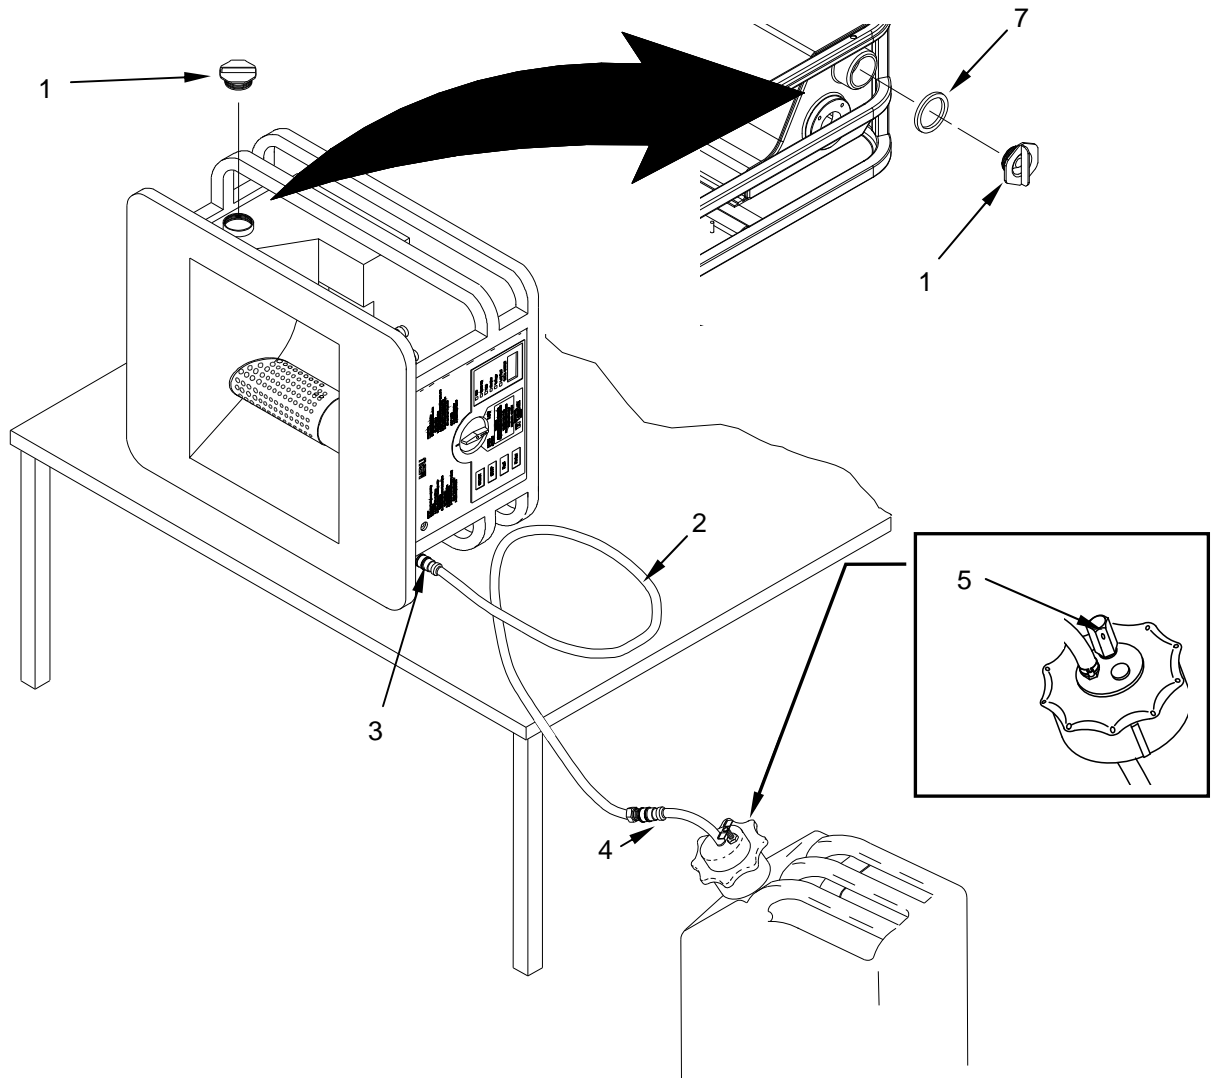

Figure 1. Drain the Fuel Tank.
1. Place MBU on its left side so the fuel tank fill cap (Figure 1, Item 1) is on top.
2. Connect the fuel hose (Figure 1, Item 2) to the fuel fill quick disconnect (Figure 1, Item 3) on the burner, and connect the other end to the fuel can adapter (Figure 1, Item 4). The fuel can (Figure 1, Item 6) must be located close to and lower than the MBU to allow the fuel to drain out. Coil the excess fuel hose and place on table beside MBU.
3. Remove tank fill cap (Figure 1, Item 1). Open manual relief vent (Figure 1, Item 5) on Fuel Can Adapter (Figure 1, Item 4).
Ensure the fill cap seal (Figure 1, Item 7) is serviceable. The fill cap seal must fully seal for the MBU to operate. Replace a worn or damaged seal.
4. When fully drained, replace fill cap (Figure 1, Item 1) and disconnect fuel hose (Figure 1, Item 2). Close manual relief vent (Figure 1, Item 5).